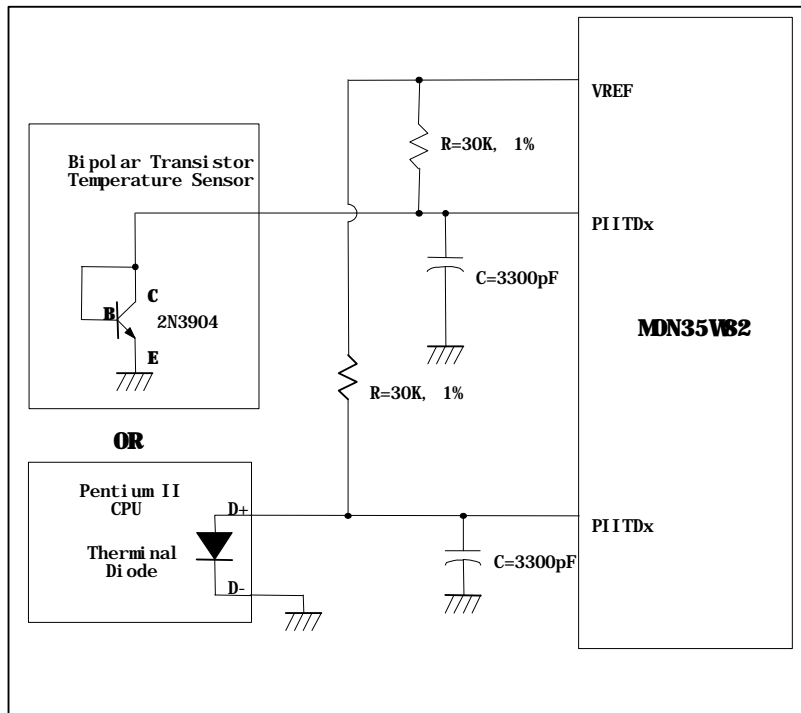

FIGURE 11
The MON35W82 can interface to the Pentium II™ (Deschutes) thermal diode interface or a 2N3904 transistor. The circuit connection is shown in Figure 11. The Pentium II™ D- pin is connected to ground (GND) and the D+ pin is connected to the PII1 or PII2 pin of the MON35W82. A 30K-ohm resistor must be connected from the PIIx pin to the VREF pin to supply the diode bias current and a bypass capacitor $C=3300pF$ must be added to filter the high frequency noise. If a 2N3904 transistor is used, the Base (B) and Collector (C) must be tied together to act as a thermal diode.